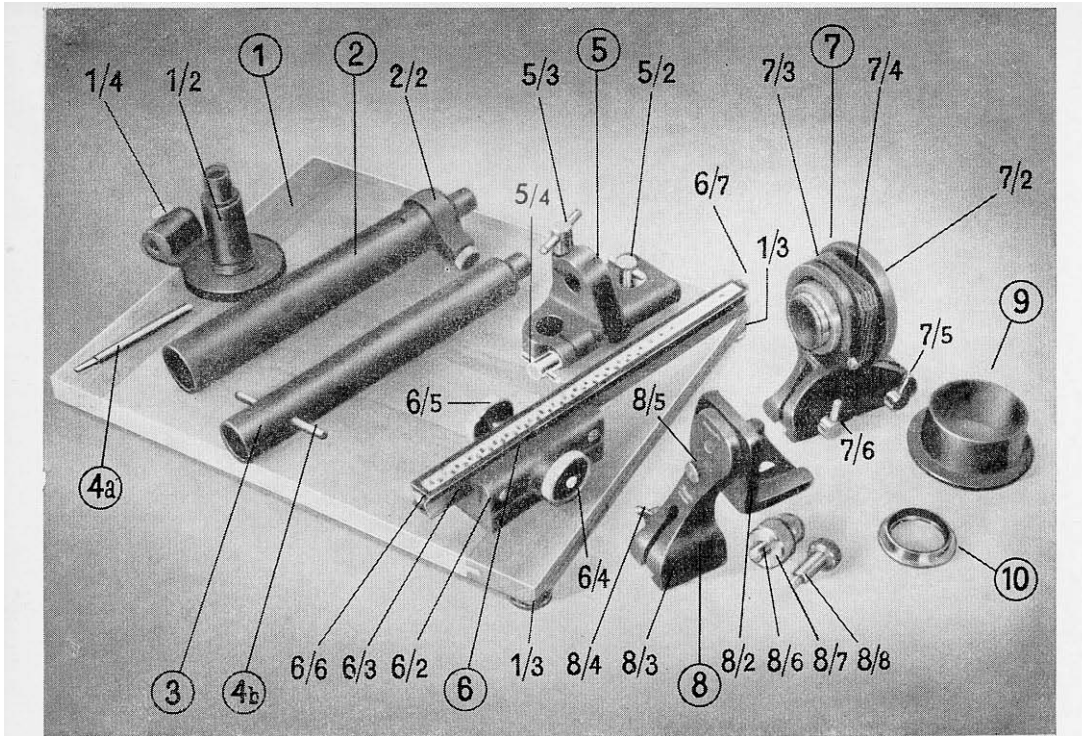

Fig. 1: Single parts of the copying stand and their supplements
For a better understanding of the text, it is advisable to leave the page showing Fig. 1 unfolded while studying the contents of this booklet.
The component parts of the bellows attachment are the focusing slide (6), the bellows top attachment (7) with the lens holder (7/2), the bellows (7/4), and the camera holder (7/3). Camera holder and lens holder are pushed on to the gliding rail (6/3) of the focusing slide (6). Make sure that they stand close together and are connected firmly by fastening the screw (7/7) on the lens holder – Fig. 2 – as shown in Figs. 1 and 14. The levers (7/5 and 7/6) are loosened and standing upright. First the lens holder (7/2) and then the camera holder (7/3) are pushed on to the tail-end of the gliding rail (6/3) (recognizable by the largest values on the scale and by the rotatable locking screw (6/6) with the unilaterally frased head). Before pushing on the bellows top attachment (7), this locking screw (6/6) must be set so that the frased section of the screw lies on a level with the upper surface of the gliding rail (6/3). Having pushed the holders on, tighten the locking screw (6/6) slightly, causing the round part of the screw head to project above the surface of the gliding rail and preventing an inadvertent slipping off